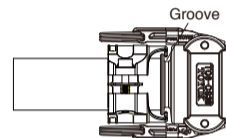

Figure 1
5. Provisionally assemble the clamp in line with the grooves on the nipple. Adjust the triangle marking of the rubber cap to be positioned in the center of the gap. (Figure 1)